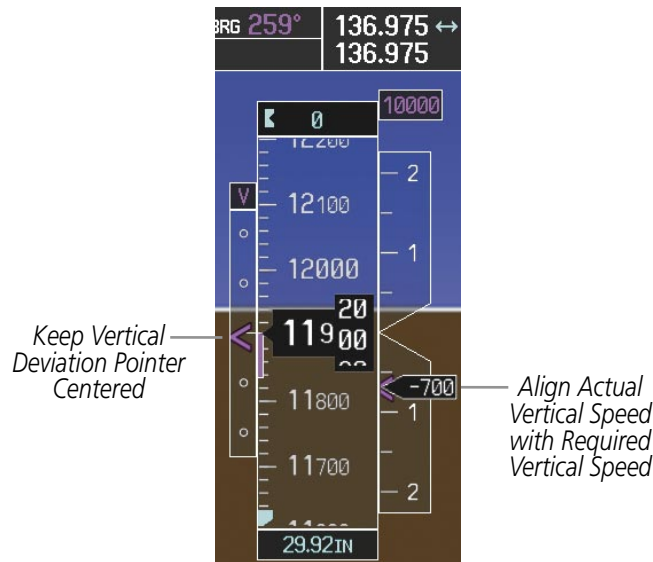

Figure 5-120 VDI & RVSI Showing Correctly Established Descent
- 16) Upon reaching TOD, a descent vertical speed is established which places the VSI pointer in line with the RVSI as shown in Figure 5-120.